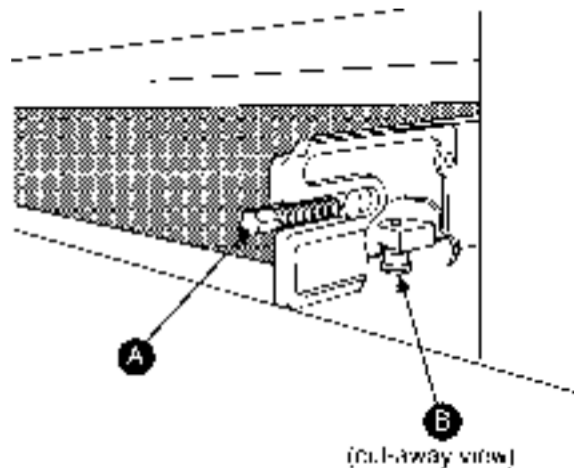

FIGURE 6
2. Adjust tracking with the screws (A) located at right and left front sides of the conveyor table. See Figure 6.
5. Limit wheels (B) have been provided on the right and left sides of the conveyor belt to limit the belt tracking. When adjusting the tracking, the belt should be moved until its edge just touches the limit wheels.